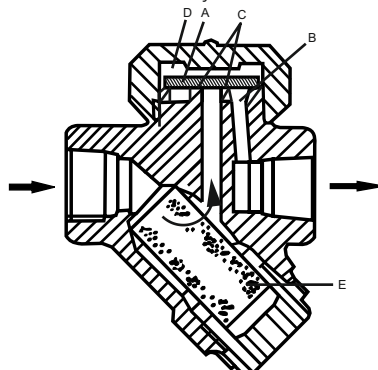

Figure 3 : Forbes Marshall Thermodynamic Trap
4.1. Operation of Forbes Marshall Thermodynamic Trap : [Refer figure 3]